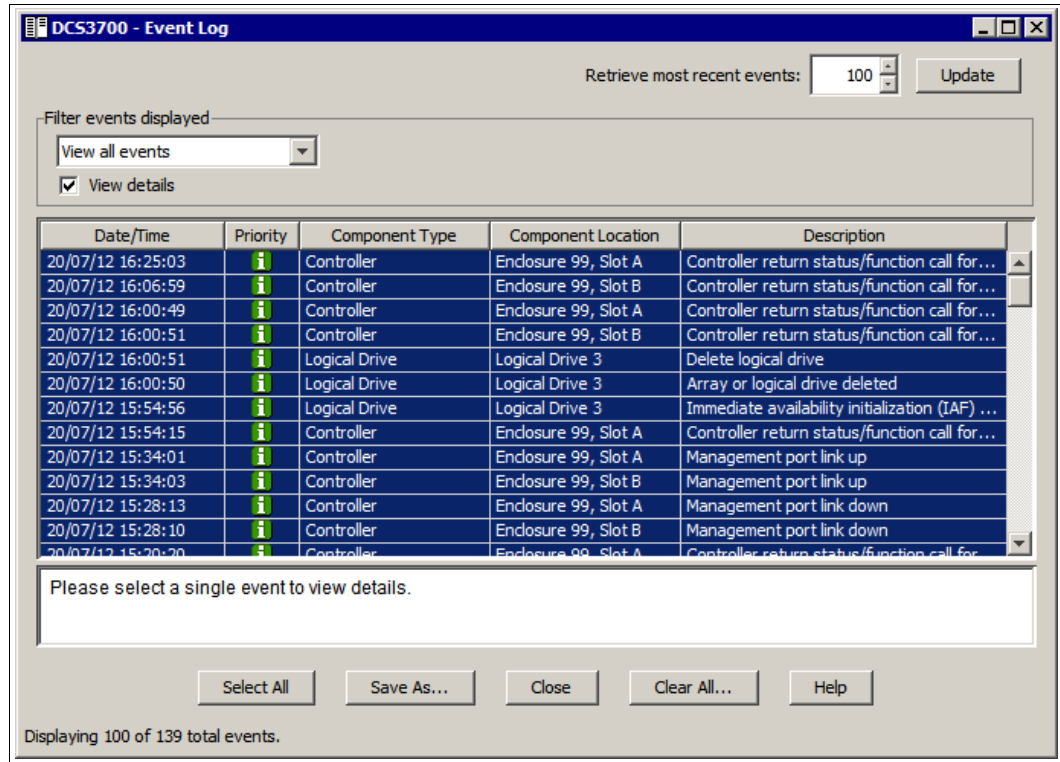

Figure 13-34 Select All events
- ▶ **Select All:** Click this button to highlight all events (Figure 13-34).